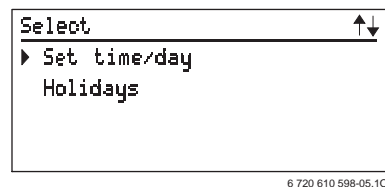

Fig. 36 Submenu: Set time/day
- Press the  button to confirm the setting and return to the previous menu (Fig. 36 page 27).